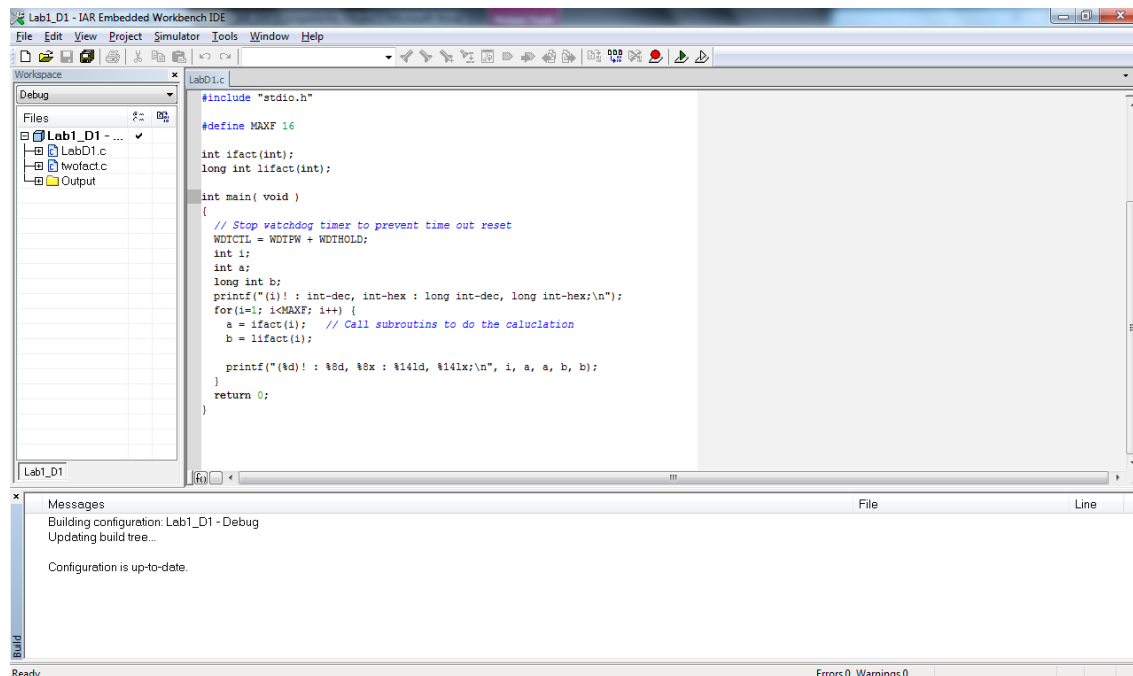

Figure 6. Workspace window after compilation.
1.3. Click on the plus signs in the Workspace window to expand the view (Figure 6). As you can see, IAR Embedded Workbench has also created an output folder icon in the Workspace window containing any generated output files. All included header files are displayed as well, showing the dependencies between the files.